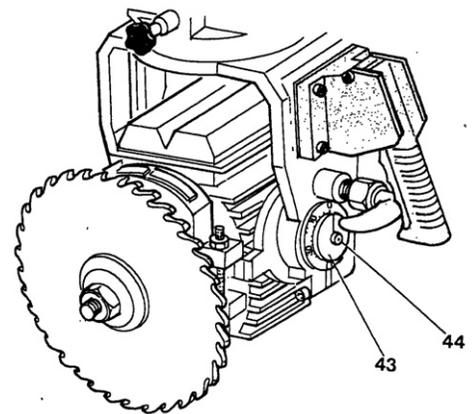

Fig. 16
Having obtained perpendicularity with the work table, check and if necessary, regulate the index (43) loosening the screw (44) and bringing the black line to coincide with position zero (see fig.16).